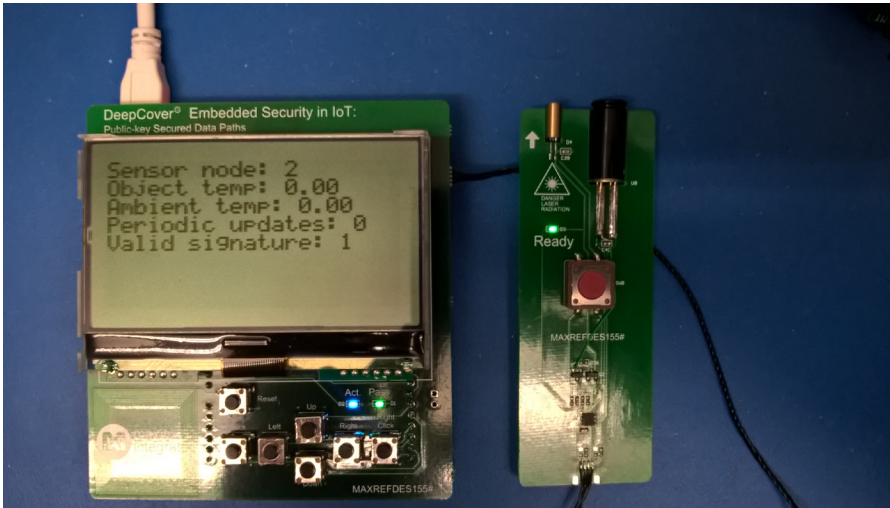

Figure 10. Sending valid signatures to the web server.
9. Verify the mbed shield LCD screen shows a **Valid signature: 1** as shown in **Figure 10** indicating the mbed is sending valid signatures to the web server.